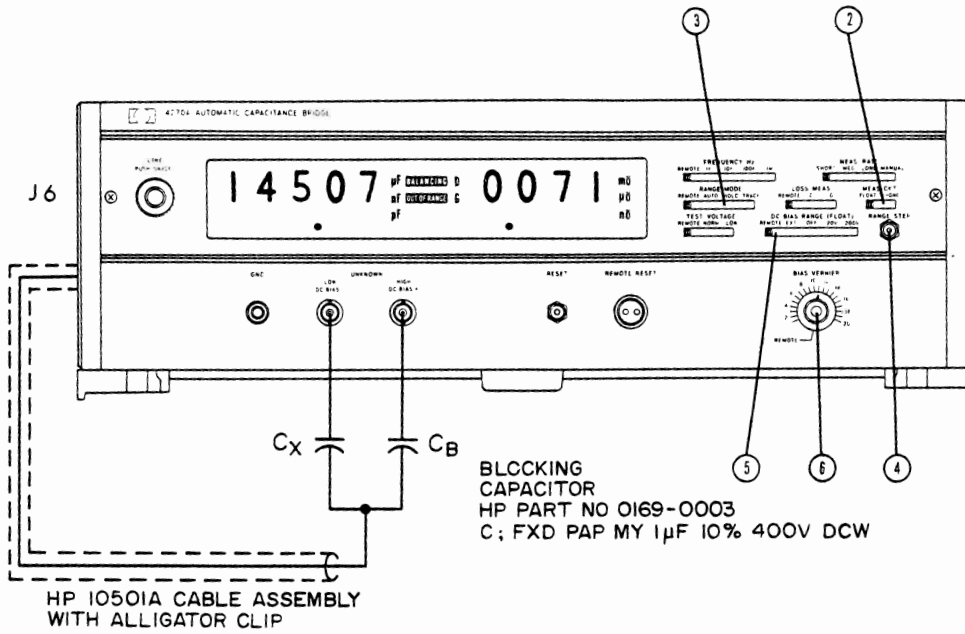

Figure 3-5. L-GND Measuring Circuit
2. OUTPUT: DC bias applied to capacitor under test may be monitored. Output impedance is $100k\Omega$. When measuring unknown with internal dc bias supply at L-GND, this connector supplies dc bias to unknown. See Figure 3-5.
4. REMOTE PROGRAM RESISTOR terminal to be used with GUARD terminal ⑤ when using external control of dc bias.
5. GUARD to be connected to the outer conductor of UNKNOWN connectors. The short strap should be tied to REMOTE PROGRAM RESISTOR terminal ④ except when using remote controller for dc bias.
3-32. Dc bias, applicable to test capacities, may be derived from the 4270A internally, or externally from other dc sources. Dc bias may only be used in HOLD and TRACK modes. See Paragraph 3-17 for selection of desired ranges. Figure 3-5 outlines the procedure for using internally-provided dc bias operation using the L-GND MEAS CKT. Internal dc bias may be controlled down to 100mV and up to 200V by the VERNIER control on the front panel and by an external programming resistor. See Paragraph 3-44 for remote control. Dc bias polarity applied to the unknown is plus (+) at HIGH UNKNOWN terminal and minus (-) at LOW.